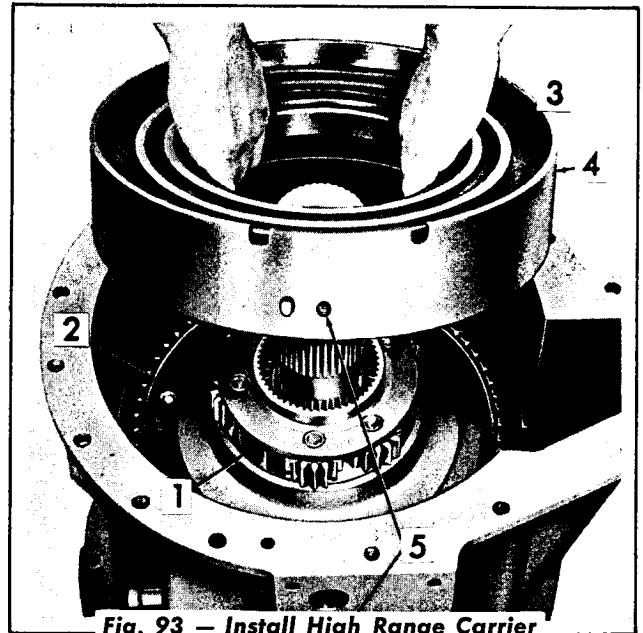

Fig. 93 — Install High Range Carrier Assembly and Piston
9. Install the high range carrier assembly (Fig. 93) and secure it with the internal snap ring. Install the high range piston into the piston housing. Install the piston housing assembly aligning the capscrew holes.